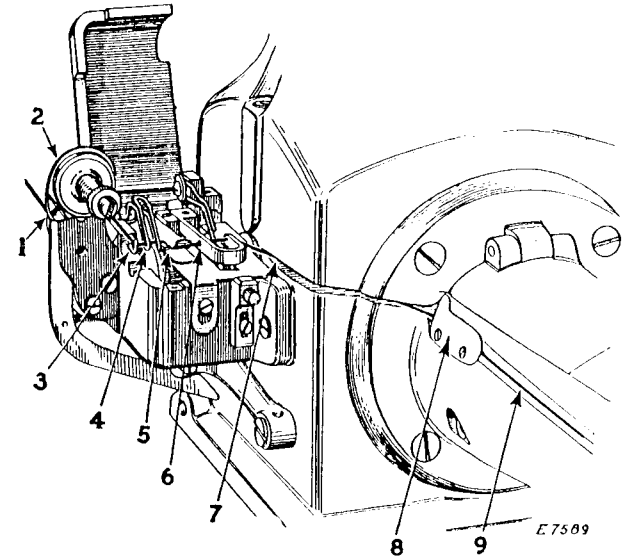

FIG. 8. THREADING THE LOOPER
(SEE FIGS. 8 AND 9)
The looper thread take-up (6, Fig. 8, page 9) should be timed when the needles are at their highest point and the looper is just commencing its backward stroke or loop shedding motion, at which time the flat or straight part of the take-up (6) should just touch the thread between the two eyelets in the take-up thread guide. As the needles move downwardly, the take-up (6) should just take up the slack of the thread from the looper without straining it, keeping the thread straight from the eye of the looper to the last stitch formed. When the needles have descended far enough into the triangle formed by the looper blade, the looper thread and the needle loops, the looper thread should be released by the cast-off arm of the stripper wire above the take-up, and held by the retaining arm of the stripper until the eye of the looper, on its forward or loop taking stroke, reaches the needles. At this point, the retaining portion of the stripper should cast off the looper thread and allow it to go freely with the looper. The looper thread take-up (6) can be timed after loosening the screws which hold it in position on the shaft. When the looper thread take-up is correctly timed, securely tighten the screws which hold it in position.
The function of the looper thread nipper (5, Fig. 8, page 9) is to prevent the take-up (6, Fig. 8) pulling the thread from the supply instead of taking up the slack from the looper.
The nipper cam directly below the nipper (5, Fig. 8) should be timed to close the nipper just before the flat portion of the take-up (6) reaches the eyelets in the take-up thread guide and before the take-up starts to act. The nipper cam can be timed after loosening the screws which hold it in position on the shaft.
If the needle threads break, it is usually caused by the needle threads slipping forward on the blade of the looper so that when the needles descend they go through their own loops. If the needle loops are not pulled up into place, it is probably due to the looper thread pull-off not giving sufficient looper thread. To remedy this, loosen the screw in the looper thread pull-off (4, Fig. 8, page 9) and turn to pull more or less thread, as required.